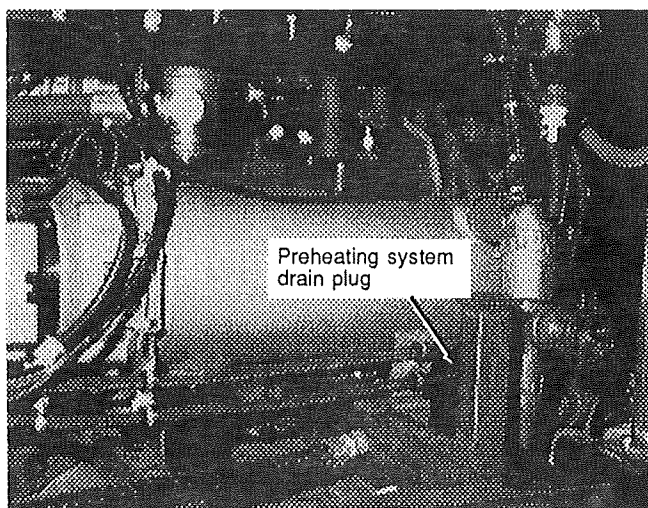

FIG. 9
7. Remove drain plug under the pre-heating system (see fig. 9).